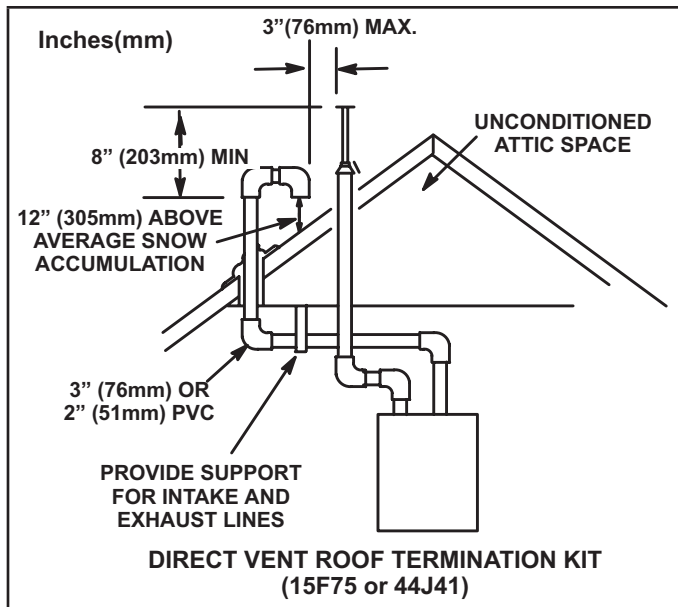

FIGURE 31
- 3 - On roof terminations, the intake piping should terminate straight down using two 90° elbows (See FIGURE 31).